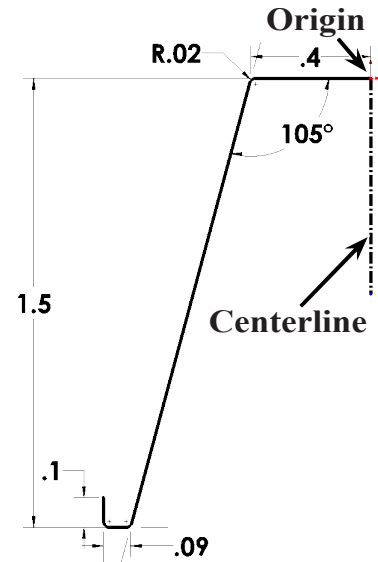

Fig. 7
Step 2. Draw **vertical centerline** down from the Origin , Fig. 7.